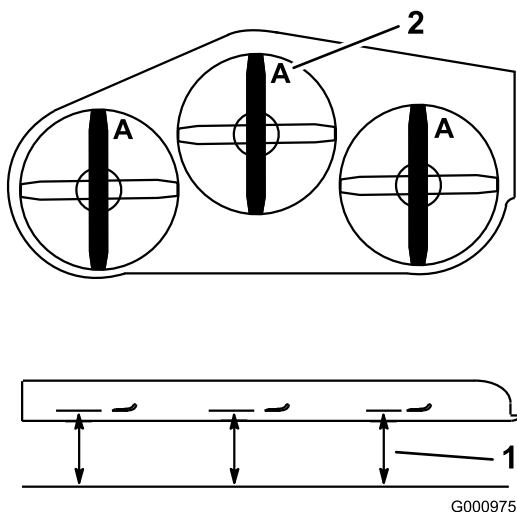
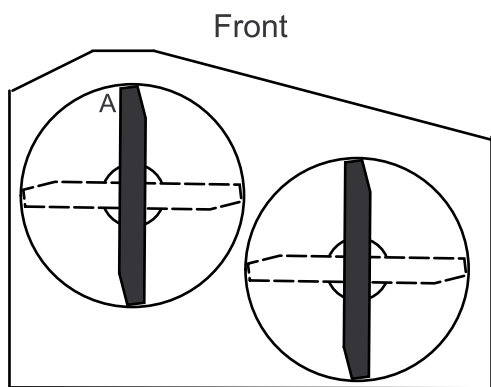

Figure 70
Figure 71
- With the machine on level surface, position one blade front-to-rear. Measure at **A** and from level surface to the cutting edge of the blade tips (Figure 70). For 36 inch mower decks use Figure 71.